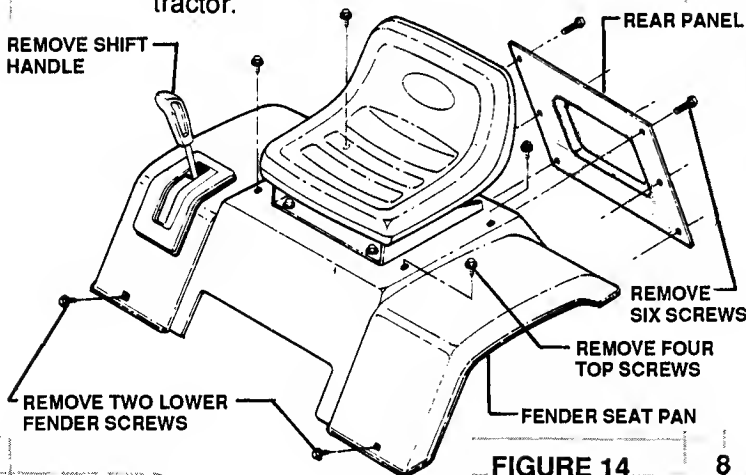

FIGURE 14
- **TRANSAXLE:** Remove rear panel or fender seat pan to gain access to transaxle. See Figure 14.
1. Remove six (6) screws.